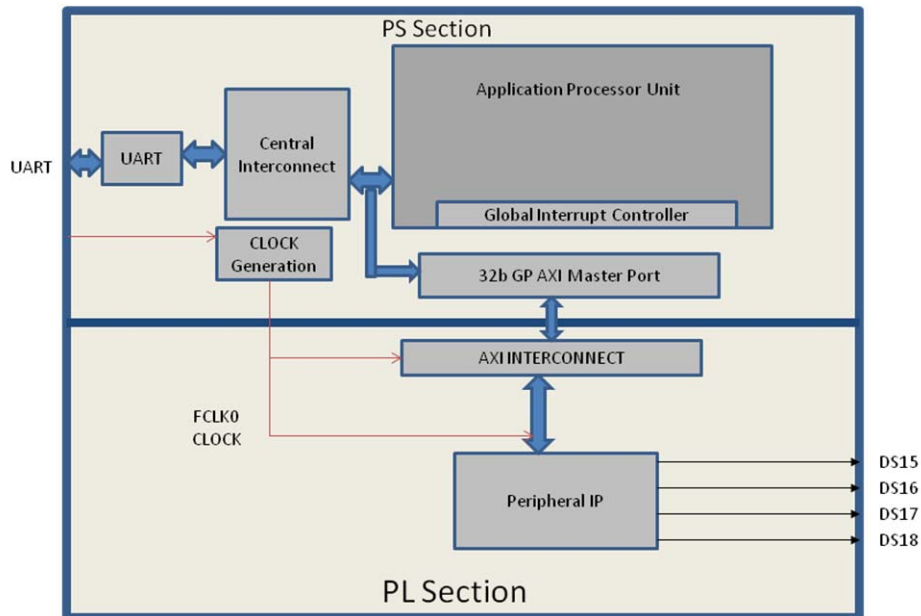

Figure 9-2: Block Diagram
You will create a system for the ZC702 board by instantiating the peripheral IP as a slave in the Zynq processing logic (PL) section and connect it with the PS processor through the processing system (PS) general purpose (GP) master port. The block diagram for the system is shown in Figure 9-2.